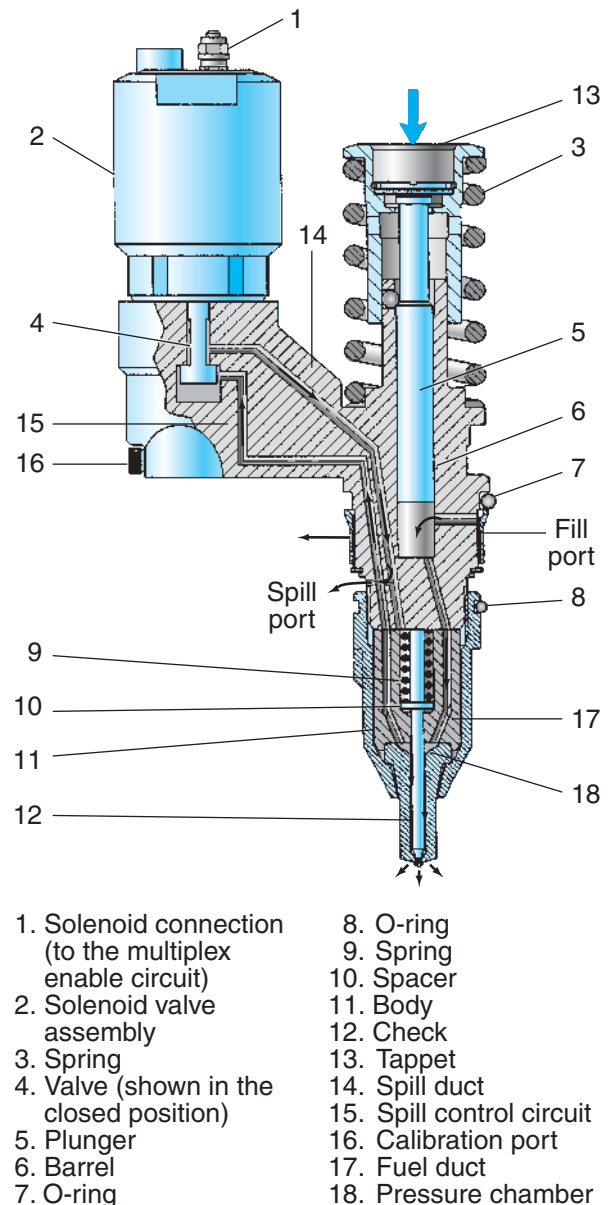

Figure 15-5 Sectional view of a Delphi two-terminal EUI. (Courtesy of Caterpillar)
Both **two-terminal EUIs** and **four-terminal EUIs** are mechanically actuated by an injector train in the same way cylinder valves are actuated. In an engine with an overhead camshaft, a rocker is used to actuate the EUI as shown in the **Figure 15-5** example. Effective stroke of the EUI is electronically controlled by the ECM. This is what is known as switching and is the responsibility of the injector drivers.
Figure 15-5 shows a sectional view of a two-terminal Delphi EUI with the subcomponents labeled. Refer to the callout codes in that figure as you read the following description of the single actuator EUI subcomponents:
2. Control cartridge: the actuator, a solenoid consisting of a coil and armature with an integral poppet control valve (4). A spring loads the armature open. Energizing the solenoid closes the armature/poppet control valve. These actions open and close the EUI spill circuit.
4. Poppet control valve: a valve integral with the solenoid armature. In **Figure 15-5**, the control valve is shown closed (solenoid energized). In this closed position, fuel is prevented from exiting the EUI through the spill port. This traps it in the EUI, enabling an effective stroke.
5. Plunger: the moving member of the pump element. The plunger is lugged to the tappet, so moves with it. In **Figure 15-5**, the plunger is shown in its upward position.